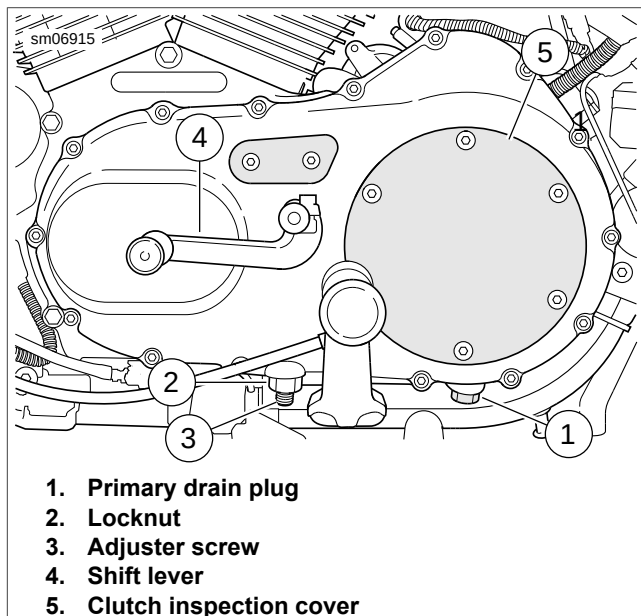

Figure 5-1. Primary Cover
3. See Figure 5-1. Place a drain pan under the engine. Remove drain plug (1) and drain lubricant from primary drive housing.